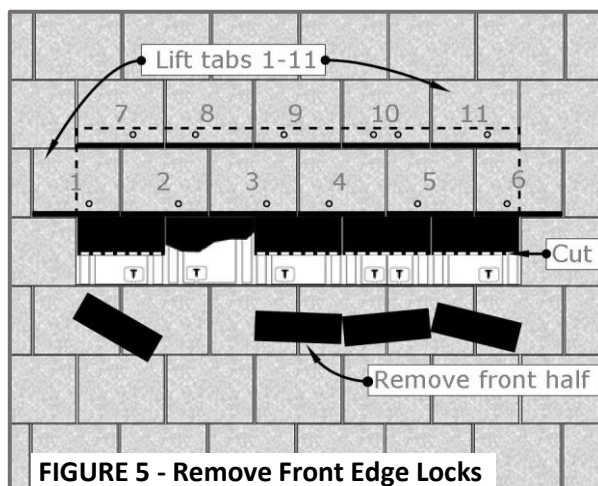

FIGURE 5 - Remove Front Edge Locks
- For F-WAVE® REVIA® **XTM** Roofing Shingles, release the front edge lock on the damaged shingle by cutting the shingle lengthways and removing the front half of the exposure. Lift tabs 1-11 and any other tabs required to obtain access to each of the fasteners. Break and remove the Front Edge Locks. Take care to avoid damaging the tabs of undamaged shingles. See **Figure 5**.